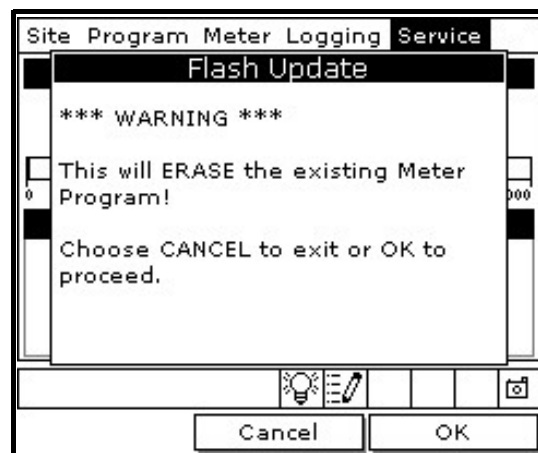

Figure 70: Flash Update Window
3. Use the arrow keys to scroll to *Flash Update* and press **[ENTER]**. Screen appears similar to Figure 70 on page 84.
4. Press **[F3]** (OK) to confirm that you wish to erase the program.
5. The meter asks for confirmation. Press **[F3]** (OK) to continue with the update.